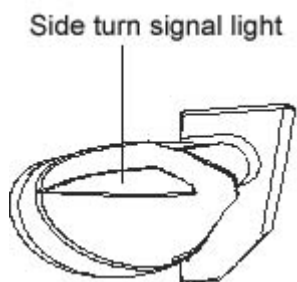

Fig. 4-68
4. Side turn signal light (Fig. 4-68)